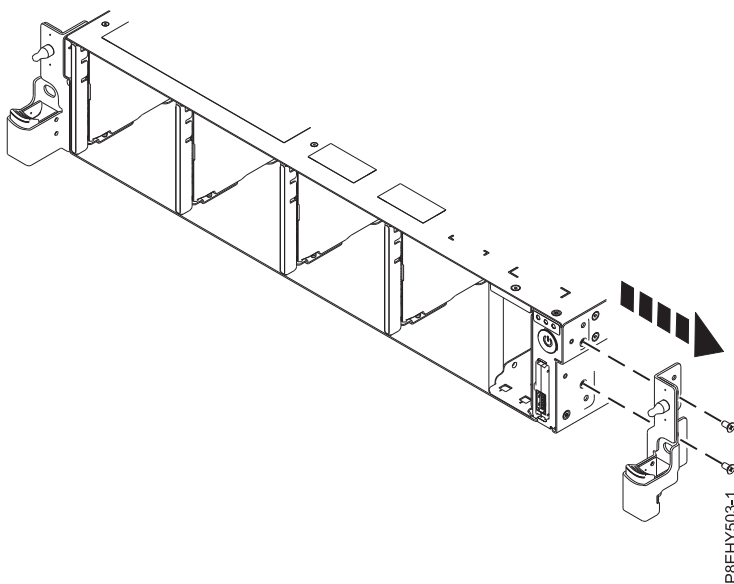

Figure 57. Removing the rack installation support
7. Remove the rack installation support from the side of the system. See Figure 57.